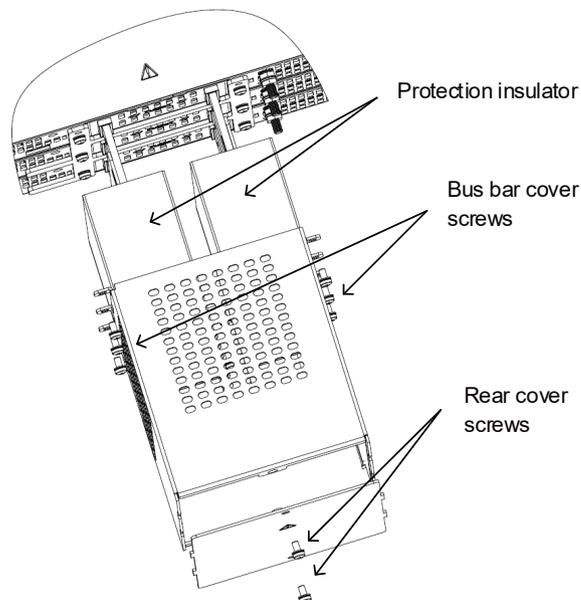

Figure 4-48: Disassembly of Output Protection
1. Open the output protection assembly by unscrewing bus bar cover and rear cover screws as shown in Figure 4-48 (15kW is shown, it applies to 10kW as well. For 10kW, there are 4 Bus bar cover screws only).
2. Disassemble Protection insulator as shown in Figure 4-48 (15kW is shown, it applies to 10kW as well).